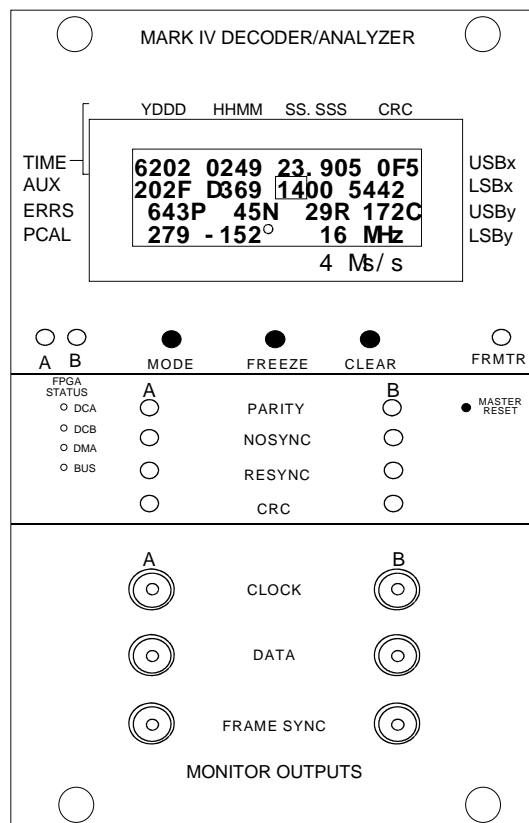

Figure 2: Mark 4 decoder front panel
The Mark 4 decoder displays information from the two tracks designated by the *'track_set=<trackA>:<trackB.'* command in the Mark 5A system. Figure 2 shows a view of the display/control portion of the Mark 4 decoder. For purposes of testing Mark 5A systems, the following is important:
The function of the Mark IV decoder is perhaps most easily understood by reference to the front-panel display in shown in Figure 2.
In the 'A' and 'B' modes, the following information is continuously displayed for the selected channel (see Figure 2):
- 'Aux Data' - displays the current decoded auxiliary-data field. The display is frozen whenever the 'Freeze' button is depressed and held; normal display resumes upon its release. When the 'Freeze' button is depressed, the 'Time' and 'Aux' data displayed are from the same tape frame header. For Mark 5A testing, the most important part of this data is the track number embedded in the auxiliary data, which in Figure 2 are the two digits enclosed by a small rectangle. Set 1 (Headstack1) tracks 2-33 display as '2-33', respectively; Set 2 (Headstack2) tracks 2-33 display as '42-73', respectively.